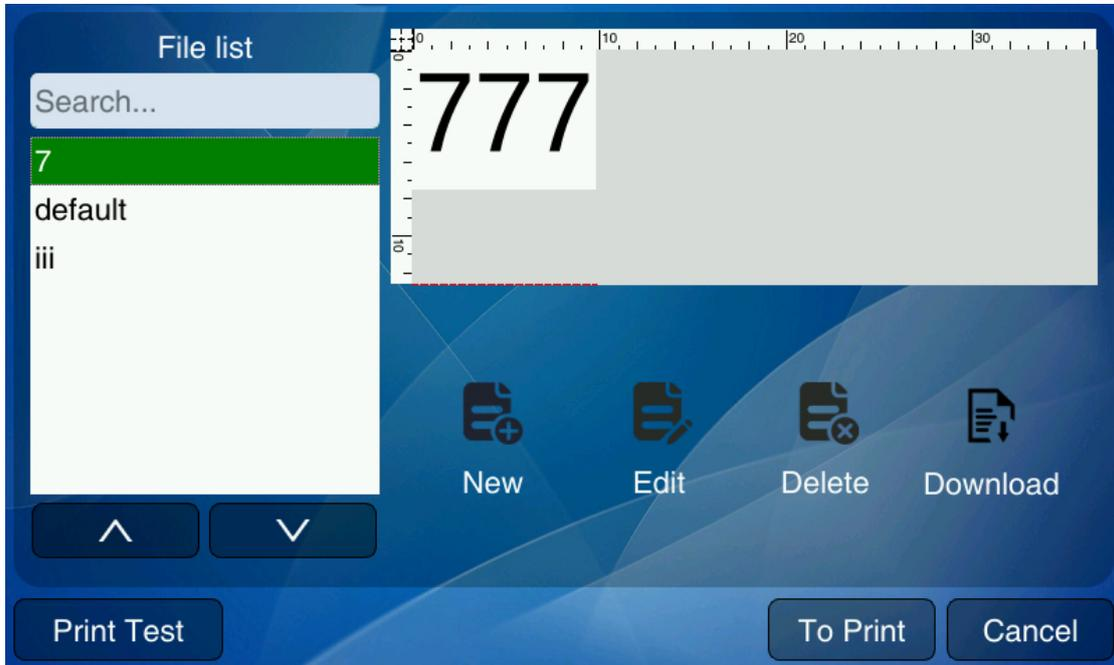

Figure 5-3 File loading interface
1. Click home page **Load File** button, the page for loading files is displayed. See Figure 5-3.